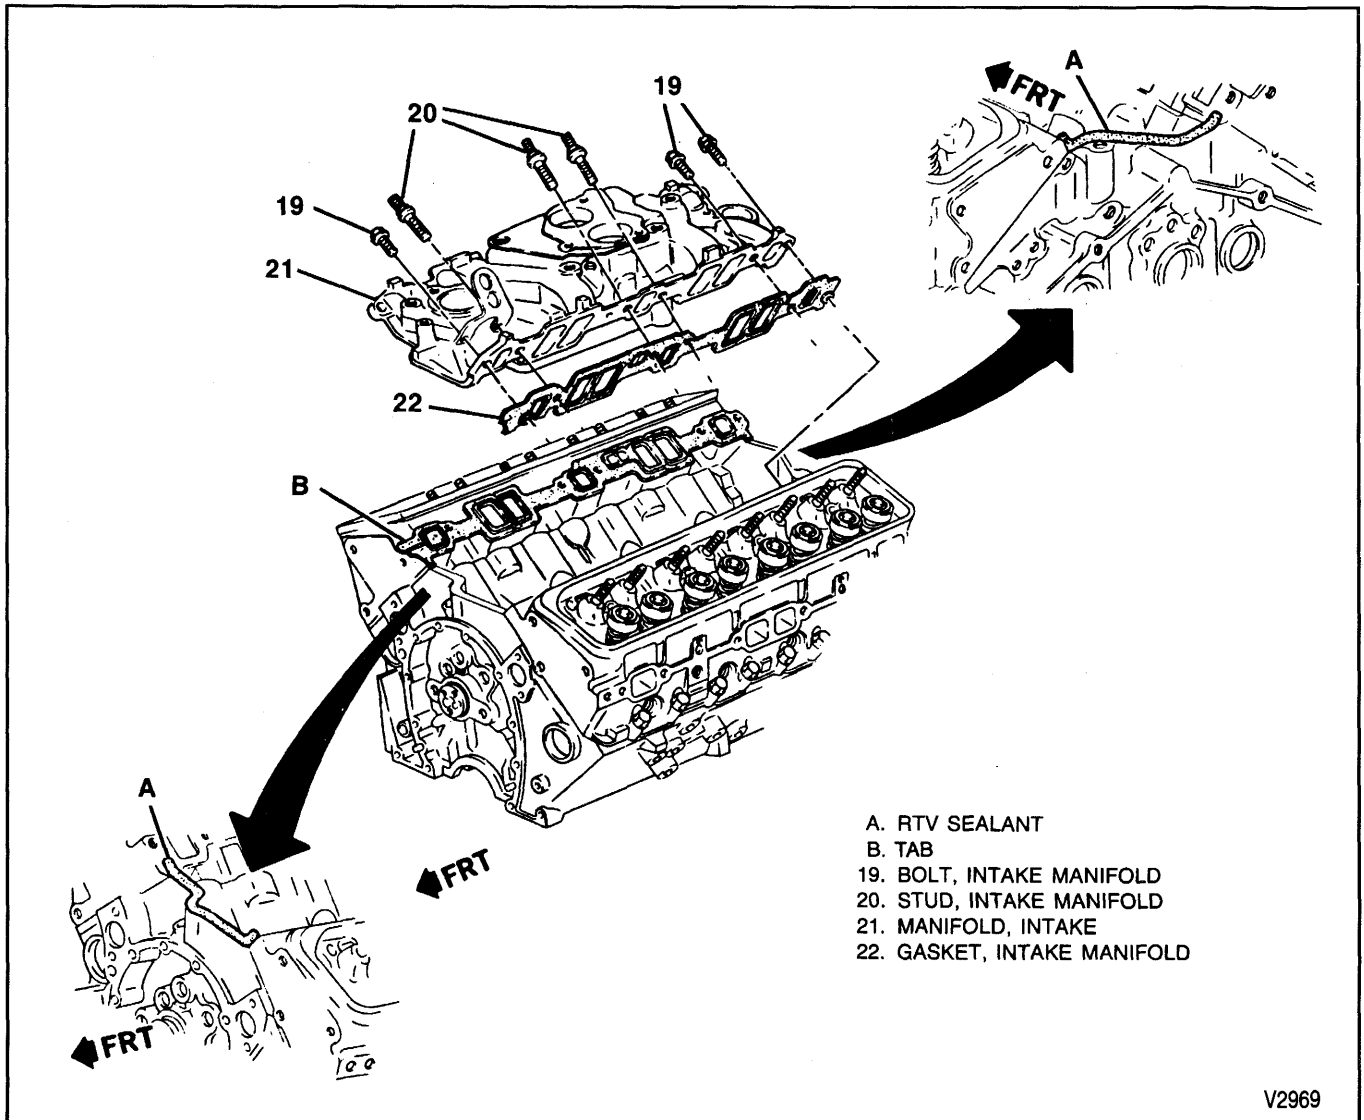

Figure 12—Intake Manifold
INTAKE MANIFOLD REPLACEMENT**Remove or Disconnect (Figure 12)**
**Install or Connect (Figures 12 and 13)**
2. RTV to the front and rear sealing surfaces on the block (figure 12). Apply a 5 mm (3/16-inch) bead of RTV (GM P/N 1052289 or equivalent) to the front and rear of the block as shown. Extend the bead 13 mm (1/2 inch) up each cylinder head to seal and retain the gaskets.